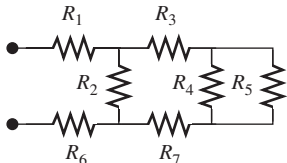

FIGURE P3.7 Circuit for Problem 3.7.
- 3.7 (A) Find R_{eq} in Figure P3.7, given